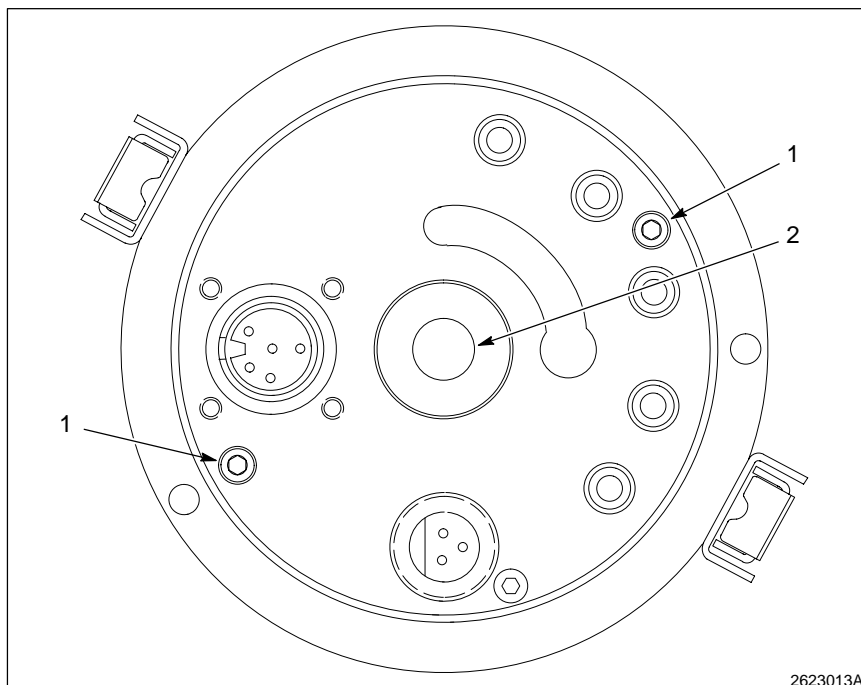

Fig. 7-4 Rear body
10. Slide the powder hose (3) off the powder tube fitting at the base end of the powder bell, leaving the opposite (nose) end connected.
11. See Figure 7-4. Remove the 2 socket head screws (1) that secure the rear body and remove the rear body.